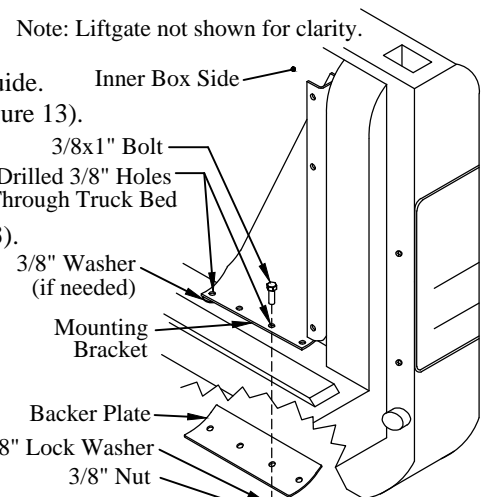

**Figure 12:** Mounting bracket and liftgate.
1. **Position** the mounting brackets into the truck bed in front of the corner posts (Figure 12).
- (3) 3/8"x1" hex head bolts on the bracket-side (Figure 12).
- (3) 3/8" lock washers, and (3) 3/8" nuts on the gusset-side (Figure 12).